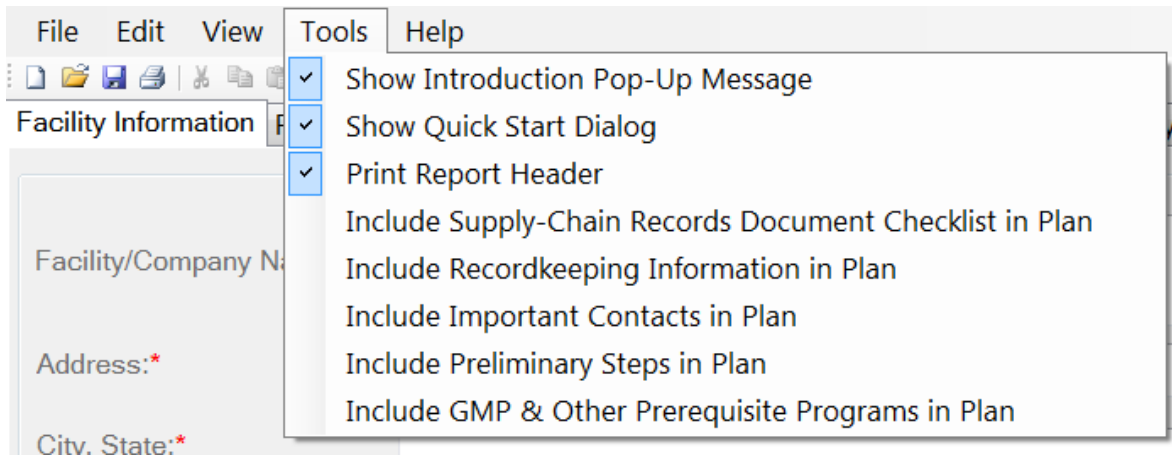

Figure 12: Tools Menu (default view)
- Tree View Navigation:** The left panel (Figure 12) contains a list of pre-populated questions, organized in a tree view by headers and sub headers. You can navigate between questions by clicking the “Next” or “Back” button at the bottom of the Middle Panel, or by clicking on the appropriate question in the Tree View. (Note: To ensure that questions are answered in the proper sequence, navigate via the “Next” button.) A green arrow indicates the question you are currently on and a black arrow indicates that a response has been entered for that question.